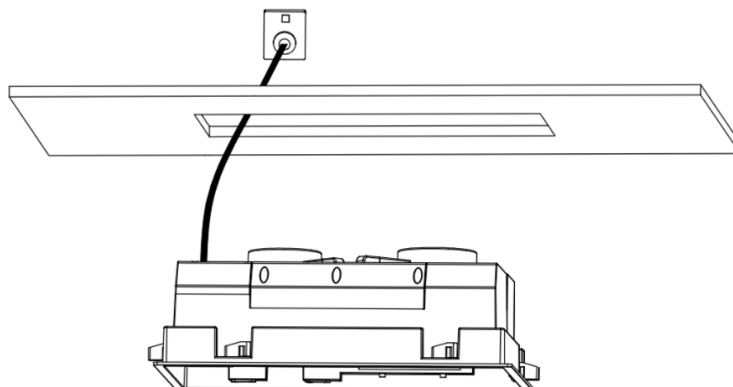

Fig. 6
8. Connect the ducting to the Exhaust Fan Outlet (C) using one of the provided Cable Ties (G).
9. Feed the power plug through the installation hole (Completed in Step 3) and then insert the plug into the socket outlet and ensure it is fully plugged in. (Fig.6)